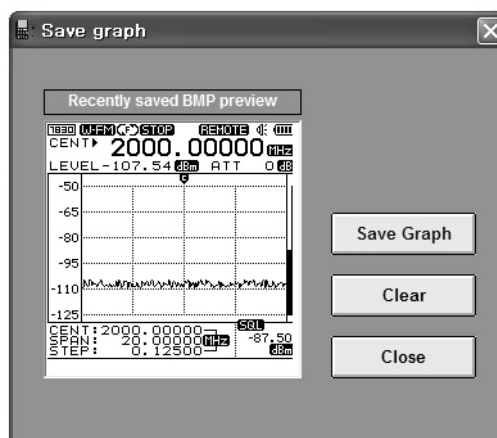

Figure 4.4. The window of Save Graph as BMP
- 2) Select “File” of the main menu → Save Graph as BMP to open the window of Save Figure 4.4.